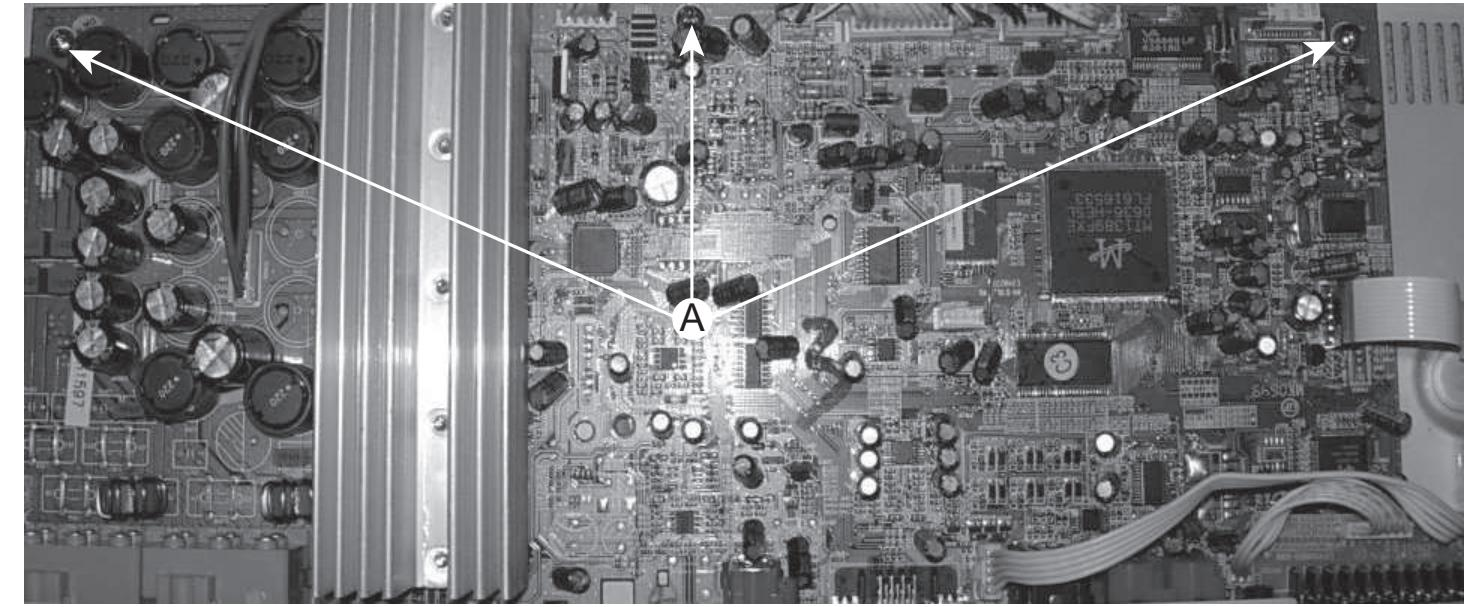

Figure 4
- 2) Loosen 3 screw "A" on the top of main board as shown in figure 4.